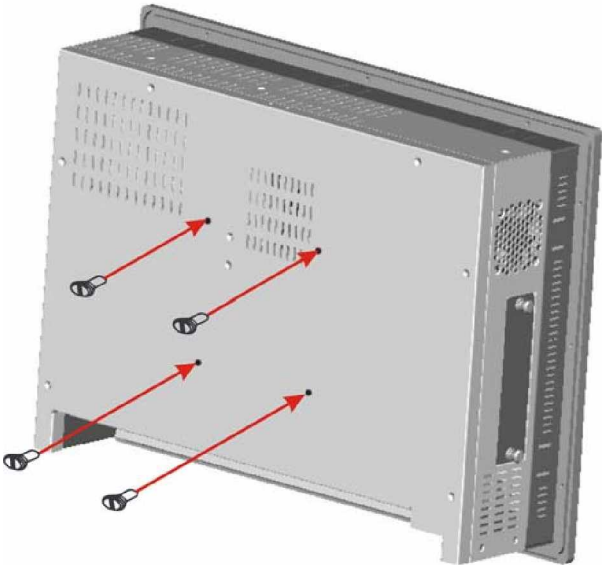

Figure 3-5: Chassis Support Screws
**Step 2:** Insert the four screws into the four screw holes on the rear cover of 2901300 (see Figure 3-5). Make sure a part of the screw protrudes out of the flat panel PC rear cover and can be inserted into the bracket.